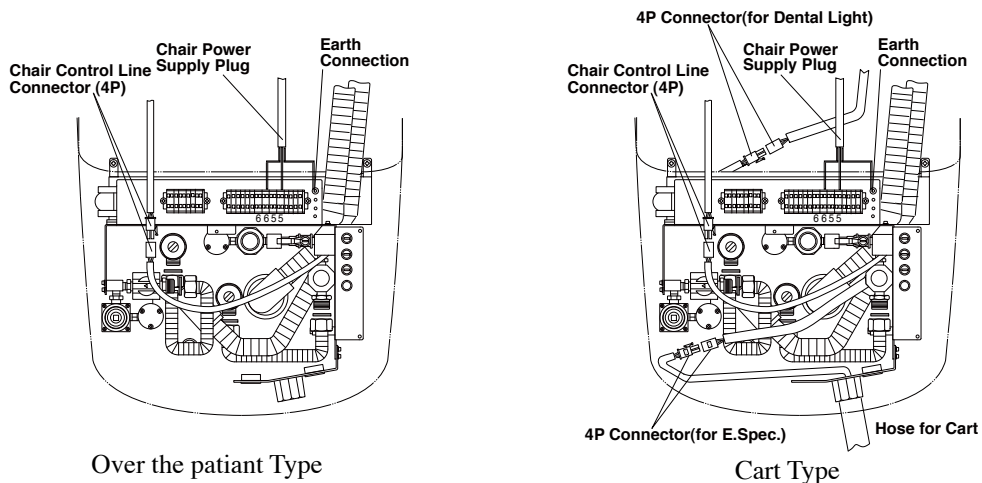
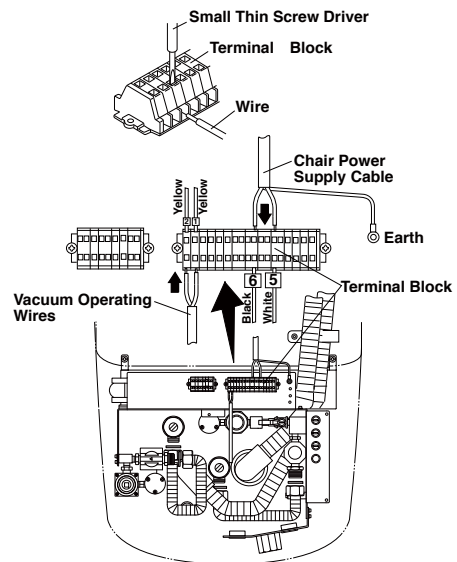

Fig.6-10A Wires Connection-A
Fig.6-10B Wires Connection-B
(5) Electrical Connections in The Utility Section
- A. Chair Control Connector (4P) (Fig.6-10A)
- B. Chair Power Supply (Fig.6-10A / Fig.6-10B)
Connect the central vacuum operating wires to terminal No.1 and No. 2. (Yellow wires are connecting.) (Fig.6-10B)
(Fig.6-10B)